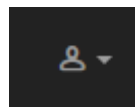

Figure 15. Partner Portal (Profile icon)
3. Hover the mouse cursor over the Profile icon in the upper right-hand corner of the web page (Figure 15 \(page 33\)). Click the **Account** option.